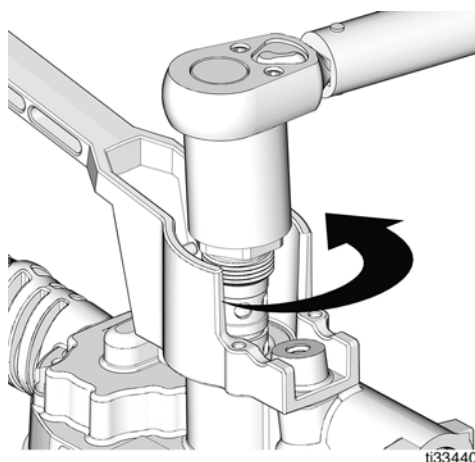

FIG. 34
2. Use a socket wrench to remove valve assembly (14) from housing (FIG. 34).